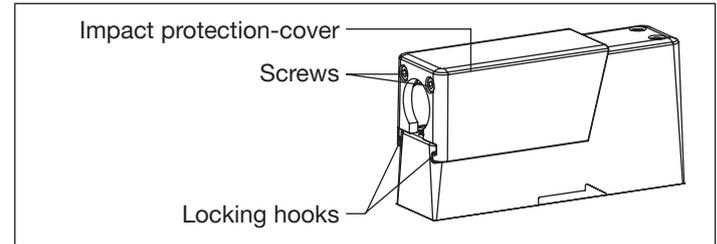

Fig. 21: Impact protection-cover, mounted
1. Insert the locking hooks of the impact protection-cover in the notches of the housing. See Fig. 21.